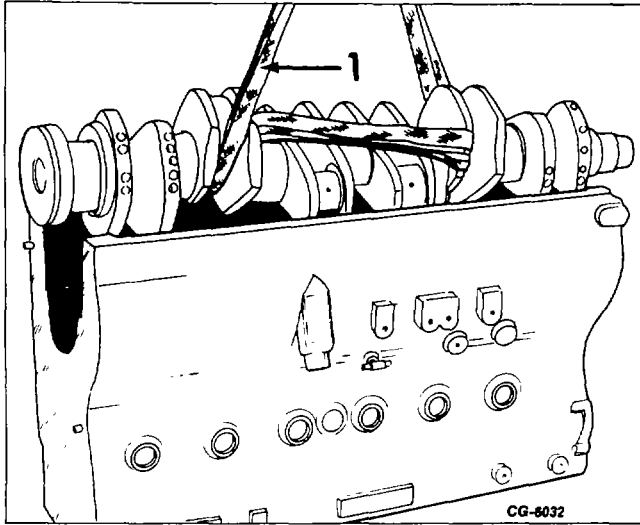

Figure 9. - Removing Crankshaft from Crankcase
5. Lift the crankshaft out of the crankcase with a nylon sling (see tool list for tool number) and hoist as shown in Fig. 9.